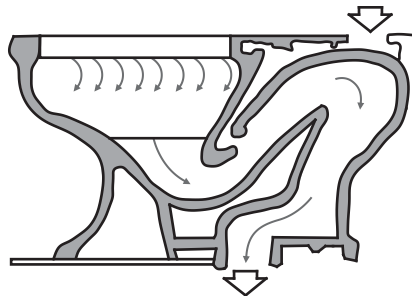

Figure 10.22: Blow-out water closet
- Blow-Out water Closet:** In blowout water closet flushing action is done by driving a large jet of water into the inlet of the trap passageway instead of driving by siphoned action (Figure 10.22). It is economical in the use of water, more efficient but noisy. It has a large water surface in the bowl that fouling space. This type of water closet is suitable for use in public places, schools office etc.